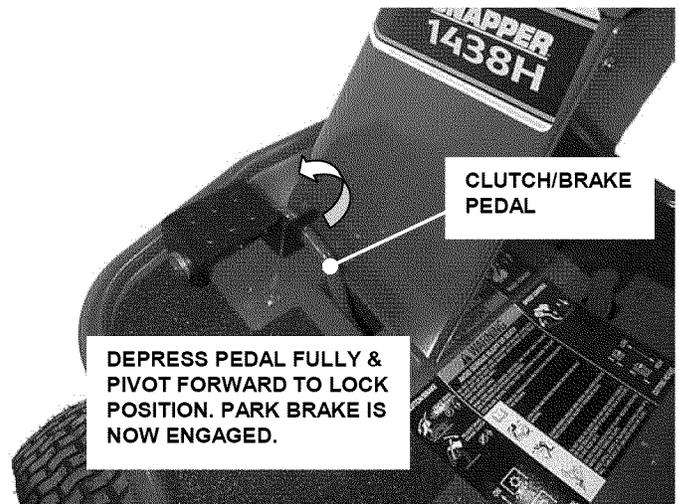

FIGURE 2.12
1. Stop motion of machine by allowing ground speed control pedal to return to neutral. Depress clutch/brake control pedal fully to apply brake. Engage parking brake. See Figure 2.12.